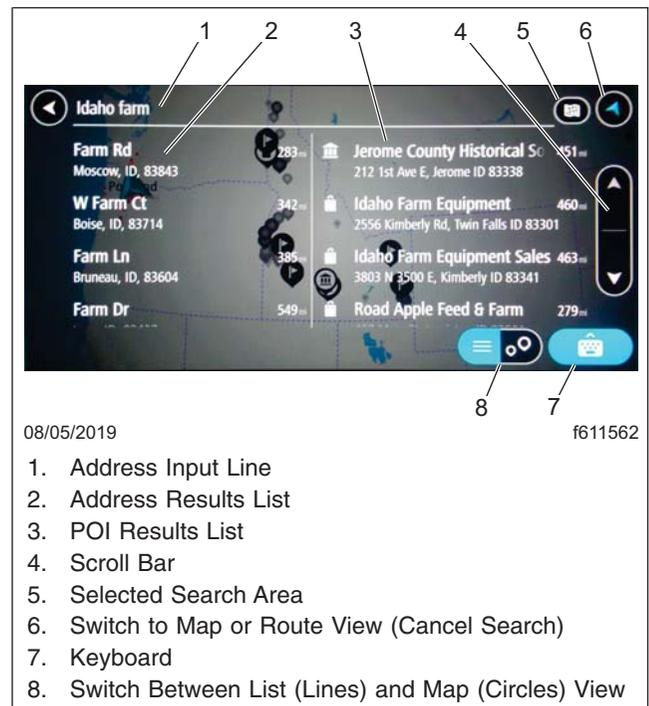

Fig. 7.4, Entering a Destination - ICC5
3. Enter the desired address, see Fig. 7.4.